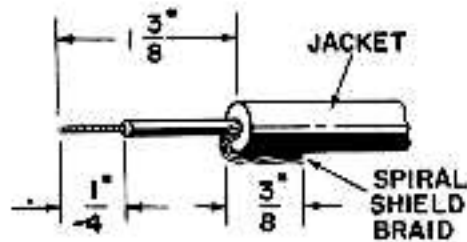

FIGURE 12
REFER TO FIGURES 12 THROUGH 16
- ( ) 137. Unwind the spiral shield back to the black outer insulation, twist the loose wires of the shield into a compact strand, then fold the shield back over the insulation. Clip off excess shield, leaving approximately 3/8" of the shield folded back. See Figure 12.